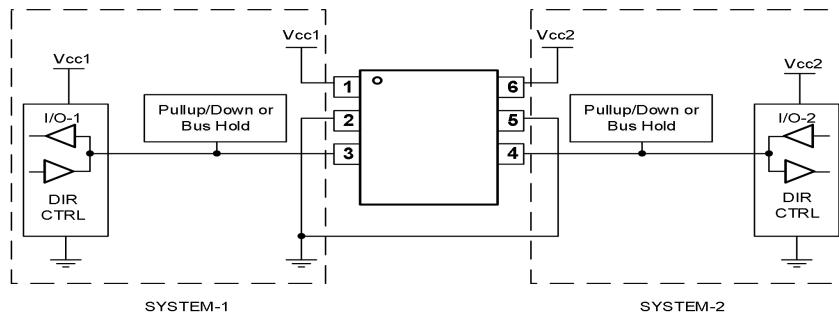

Fig.11-1. Typical application circuit
Fig.11-1 shows the GT74LVC1T45 being used in a bidirectional logic level-shifting application. Because the GT74LVC1T45 does not have an output-enable (OE) pin, the system designer should take precautions to avoid bus contention between SYSTEM-1 and SYSTEM-2 when changing directions.